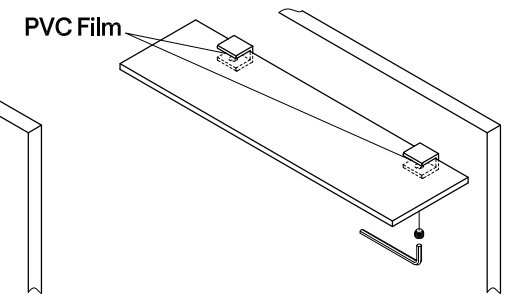

Fig. 6
6. Place the glass shelf on the brackets and insert the PVC films between the brackets and the glass. Secure it by tightening the set screw with the included Allen wrench (Fig 6).